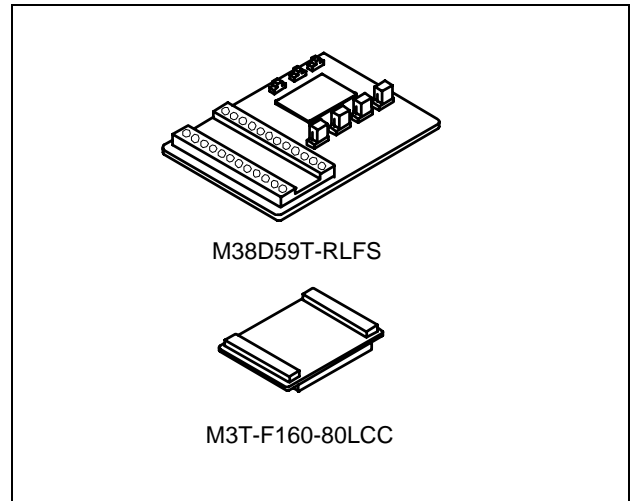

Figure 1 Package components of the M38D59T-RLFS
2. Package Components (See Figure 1)